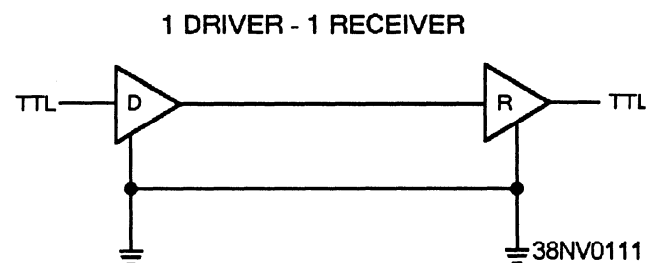

Figure 4-36.—Example of a single-ended line driver and receiver.
- **Single-ended line drivers and receivers**—Single-ended line drivers and receivers (fig. 4-36) are used for short distances. They have a single input and output at both the transmitting and receiving end. They are usually wire cables, possibly with an outer shield connected to ground. They are used for local transmission to external equipments (including computers) and for remote communications with modems.